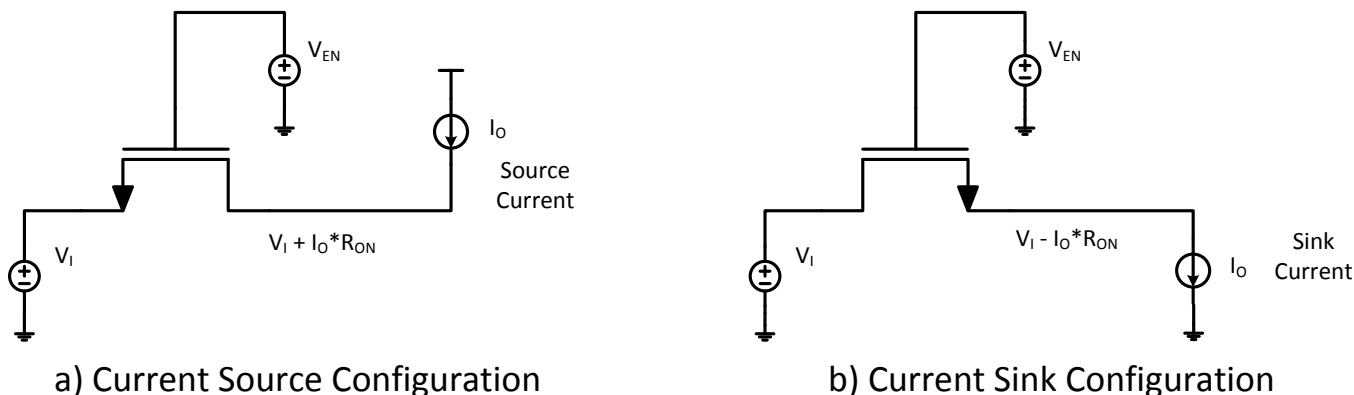

Figure 4. Current Source and Current Sink Configurations for  $R_{ON}$  Measurements
(1) All typical values are at  $T_A = 25^\circ\text{C}$ .
(2) Measured by the voltage drop between the SCL1 and SCL2, or SDA1 and SDA2 terminals, at the indicated current through the switch. Minimum ON-state resistance is determined by the lowest voltage of the two terminals.
(3) Measured in current sink configuration only (See Figure 4)
over recommended operating ambient temperature range,  $EN = 3.3$  V,  $V_{IH} = 3.3$  V,  $V_{IL} = 0$ ,  $V_M = 1.15$  V (unless otherwise noted) (see Figure 4).
over recommended operating ambient temperature range,  $EN = 2.5$  V,  $V_{IH} = 3.3$  V,  $V_{IL} = 0$ ,  $V_M = 0.75$  V (unless otherwise noted) (see Figure 4).
over recommended operating ambient temperature range,  $EN = 3.3$  V,  $V_{IH} = 2.3$  V,  $V_{IL} = 0$ ,  $V_T = 3.3$  V,  $V_M = 1.15$  V,  $R_L = 300$   $\Omega$  (unless otherwise noted) (see Figure 4).
over recommended operating ambient temperature range, EN = 2.5 V,  $V_{IH} = 2.3$  V,  $V_{IL} = 0$ ,  $V_T = 3.3$  V,  $V_M = 0.75$  V,  $R_L = 300$   $\Omega$  (unless otherwise noted) (see Figure 4).